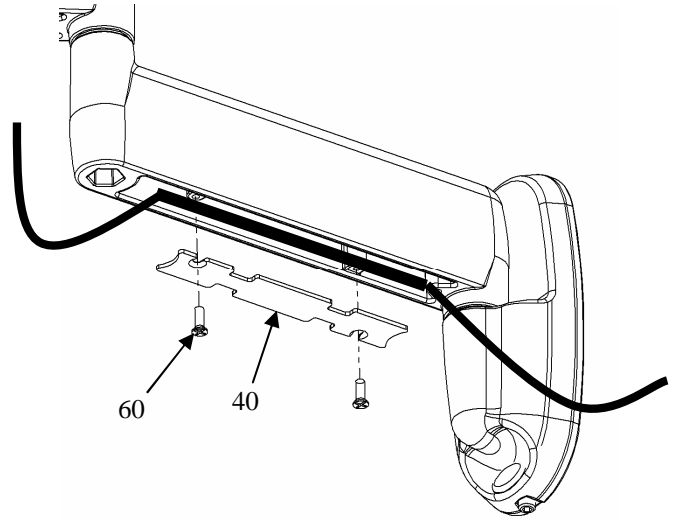

Figure 15. Cable Management
3. Secure cables using cover plates (40) and four screws (60). (See Figure 15).